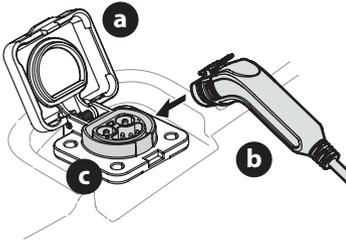

Figure 11
1. Lift the charge port cover (a) (Figure 11),(T56XXX Series Chargers).
2. Insert the charging cord (b) into the charging port (c) (Figure 11).